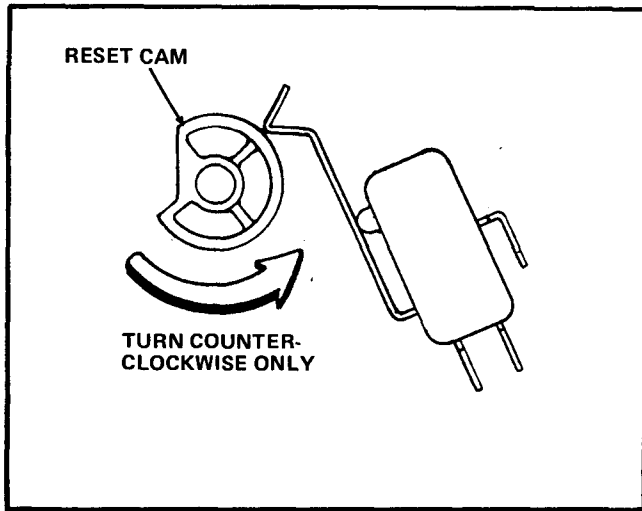

FIGURE 7
2. Rotate the Reset Cam counter-clockwise until the flat side of the Cam is perpendicular to the bottom of the Changer. See Figure 7.